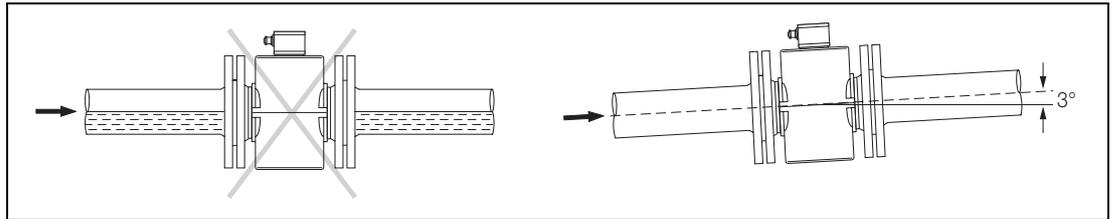

Fig. 6: Installation in Horizontal Pipeline
- Slight pipeline slope for degassing see Fig. 6